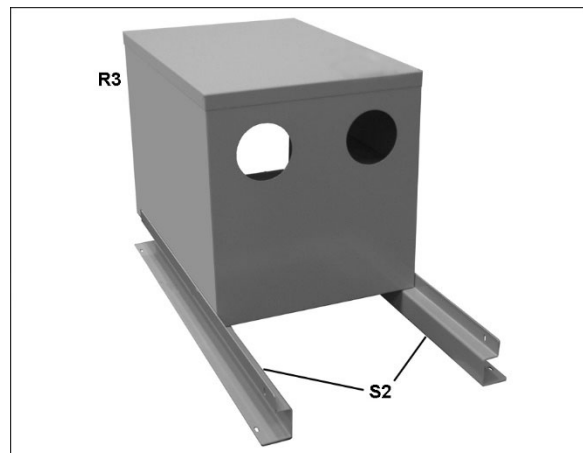
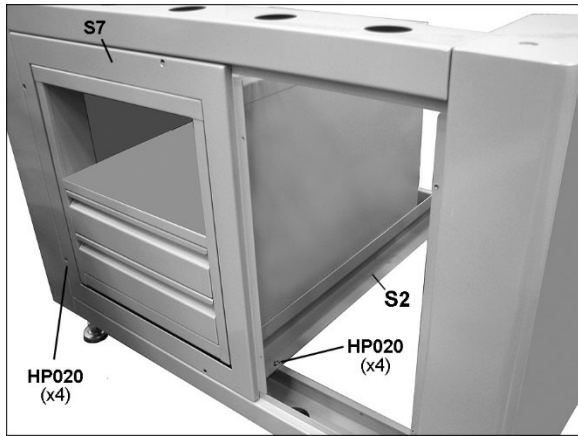

Figure 7-12
Figure 7-13
8. Install lower supports (S2, Figure 7-13) to bottom of assembly. Figure 7-12 shows orientation of lower supports and how tool cabinet will rest upon them.
9. Install open side panel (S7, Figure 7-13) and tighten screws.
10. Place tool cabinet (R3) into stand so it is flush with side panel (S7). See Figure 7-13. Use double-sided foam tape to secure tool cabinet to lower supports.